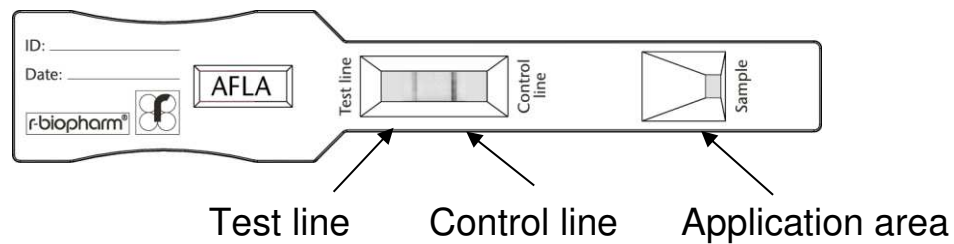

Fig. 1: RIDA®QUICK Aflatoxin RQS test strip.
- Apply 100 µL of prepared sample solution (particle-free solution or Dilution I, see 8. Sample preparation) to the application area of the test strip (see Fig. 1)
The left line in the reaction area is the test band (test line, see Fig. 1). Its appearance and intensity depends on the aflatoxin concentration of the sample. The sample is contaminated with aflatoxin, if the control band (control line) is visible and the test band (test line) is visible.